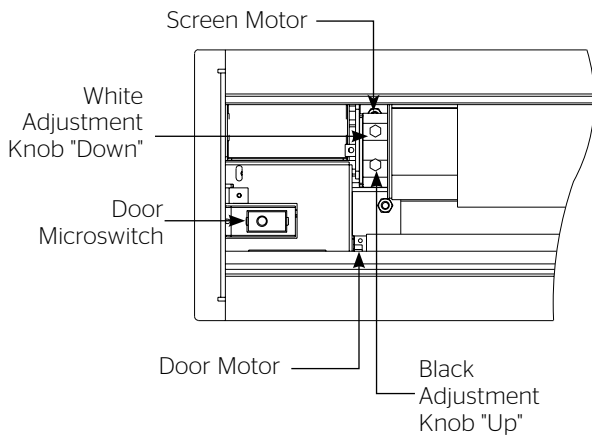

Figure 2
6. Carefully remove tape strips securing picture surface around roller. Slat should move freely (Fig. 2). (Only if the roller assembly is preinstalled.)
2. When the screen stops, turn the white "down" limit knob (Fig. 2) one-quarter turn counterclockwise. Test by raising picture surface approximately two feet, then lower again. Repeat until desired picture surface position is attained.
3. Turn the white "down" limit switch (Fig. 2) one-quarter turn clockwise. Test by raising picture surface approximately two feet, then lower again. Repeat until desired picture surface position is attained.